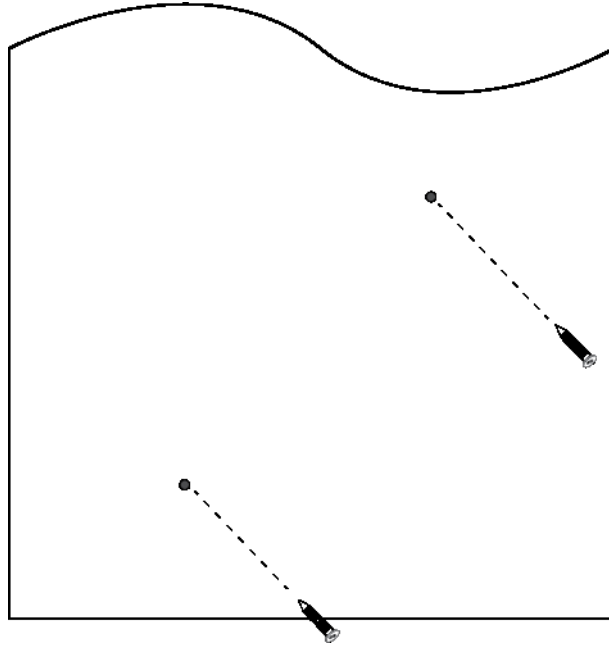

Figure 22. Installing Two Screws
5. Install two M4 screws and anchors (if required). Leave the screws loose enough so that the bracket can slide under the screw heads. Refer to Figure 22 on page 55.